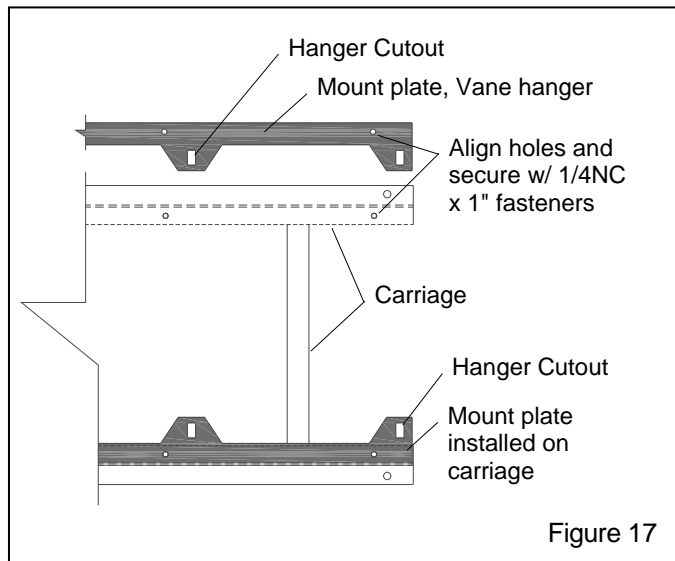

Figure 17
2.7.3.3 Use 1/4" fasteners to attach vane-hanger mount plates to the carriages, hanger cutouts must face inward as shown in Figure 17. When correctly placed, hanger cutouts should be above the sloping vane guides.